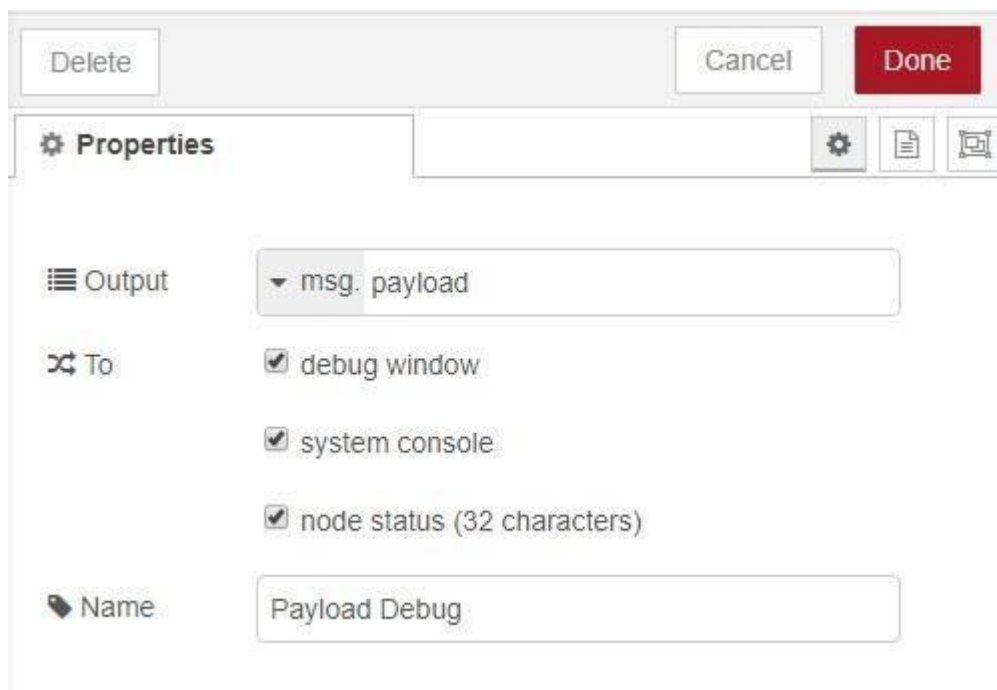

Figure 1.12
- Configure the device present in the flow graph in Figure 1.10, Figure1.11 and Figure 1.12
- f. Enable Debug window using Debug node to access payload to file as shown in Figure 1.12. If you need that payload to be written to a file, then while running Node-red command to the beginning you can start writing it to a file as ***node-red >getpayload.txt***